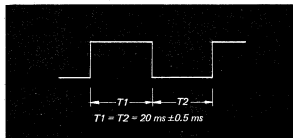

Fig. 7-12. 25 PG Pulse phase check
2. Adjust R495 so that T1 and T2 are 20 ms  $\pm$  0.5 ms (50% duty cycle) as shown in Fig. 7-12.